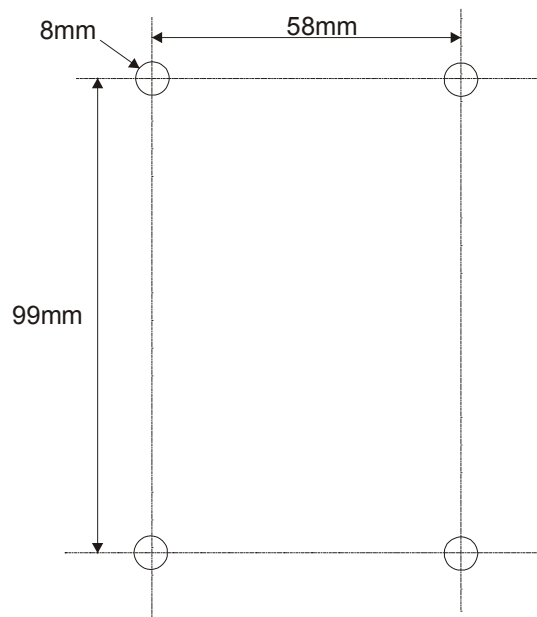

**Figure 6-4: Attaching the mounting bracket to the BSR**
1. Attach the mounting bracket to the BSR using two stainless steel bolts, as shown in Figure 6-4.